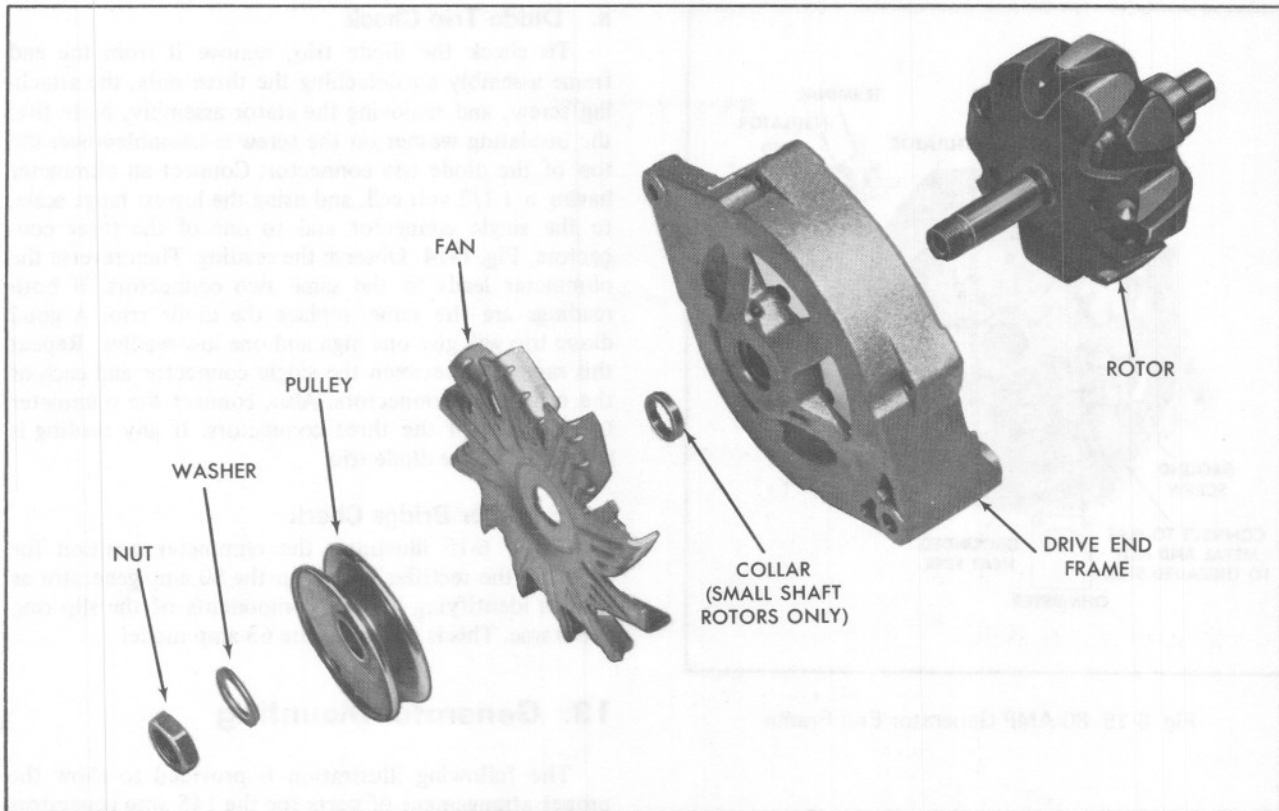

Fig. 6-12 Rotor and Drive End Frame
### 11. Generator Disassembly and Assembly (Except H.D. Generator) (Fig. 6-12)
a. The large diameter rotor shaft may be installed in a "small rotor" generator if the "collar", Fig. 6-12 is omitted during assembly.
b. A small diameter rotor shaft may be installed in a "large rotor" generator if a "collar", Fig. 6-12 is obtained and installed during assembly.
9. Position end frame, collar (if used), fan, pulley and washer over rotor shaft, Fig. 6-12, secure with nut.